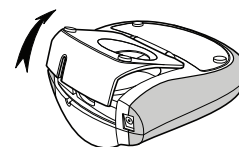

Figure3
- 1 Lift the label cassette cover to open the label compartment. See Figure 3.